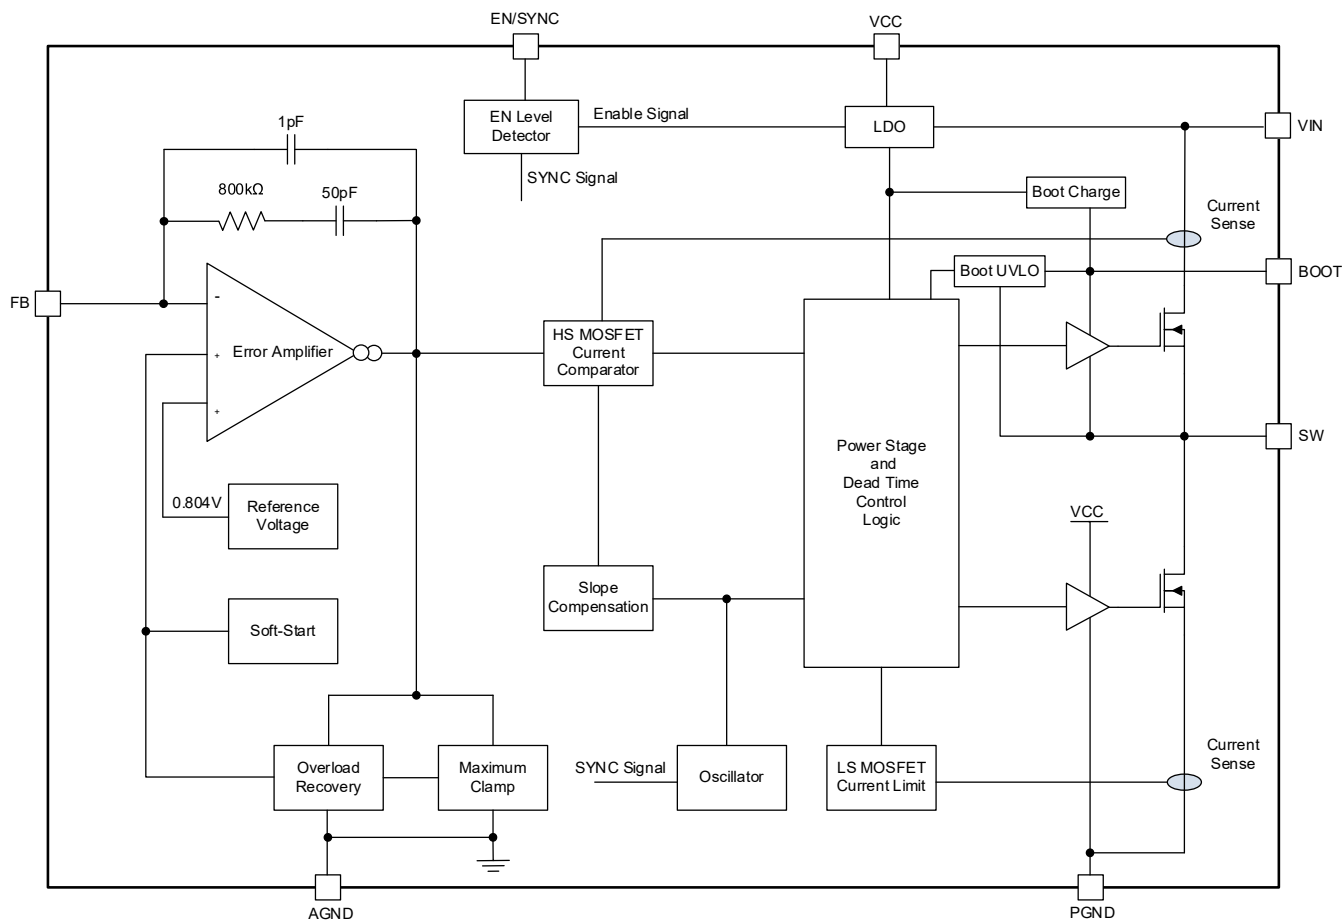
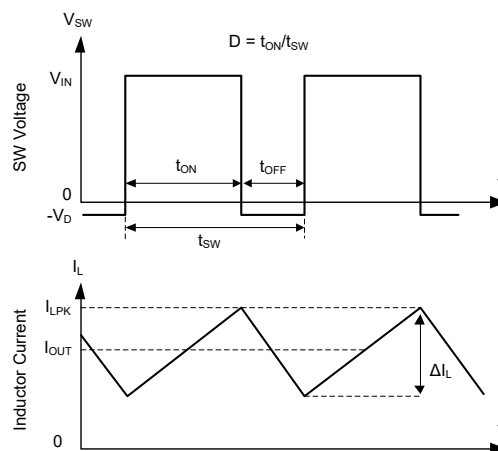
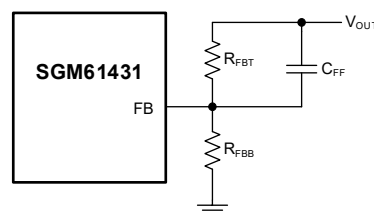

Figure 2. Block Diagram
Figure 3. Converter Switching Waveforms in CCM
Figure 8. Improving Loop Compensation by Feed-Forward Capacitor
The Functional Block Diagram and basic waveforms of this Buck synchronous converter are shown in Figure 2 and Figure 3. The N-MOSFETs are used for high-side (HS) and low-side (LS) (synchronous rectifier) switches. The HS duty cycle ($D = t_{ON}/t_{SW}$) is controlled in closed loop to regulate and maintain the output voltage at a constant level. The switching period is $t_{SW} = 1/f_{SW}$, and the HS on-time is t_{ON} . When HS is turned on, the SW node voltage sharply rises towards V_{IN} , and the inductor current (I_L) starts ramping up with $(V_{IN} - V_{OUT})/L$ slope. When HS is turned off, the LS is turned on after a very short dead time to avoid shoot-through, and I_L ramps down with $-V_{OUT}/L$ slope. When the inductor current is continuous, the output voltage is proportional to the input voltage and duty cycle ($V_{OUT} = D \times V_{IN}$) if component parasitics are ignored.
The SGM61431 is internally compensated (see Figure 2) and is stable over the entire f_{SW} and V_{OUT} operating range. However, the phase margin can be low for some ranges of V_{OUT} when low ESR ceramic capacitors are used in the output. In such cases, it is recommended to use a feed-forward capacitor (C_{FF}) in parallel with the R_{FBT} to improve the transient response as shown in Figure 8.
The HS switch over-current protection is natural in peak current mode control. In each cycle the HS current sensing starts a short time (blanking time) after it is turned on. The slope compensation ramp is deducted from the EA (Error Amplifier) output to avoid sub harmonic oscillations and the result is compared to the HS current to determine the HS turn-off time (on-time). See Figure 2 for details. Before comparison, the EA output is clamped to a fixed maximum threshold (I_{HS_LIMIT}) to limit the current. So, the peak current limit of the high-side switch is not affected by the slope compensation and remains constant over the full duty cycle range.
An external resistor divider is used to set the output voltage as shown in Figure 8. Use Equation 12 to set V_{OUT}: